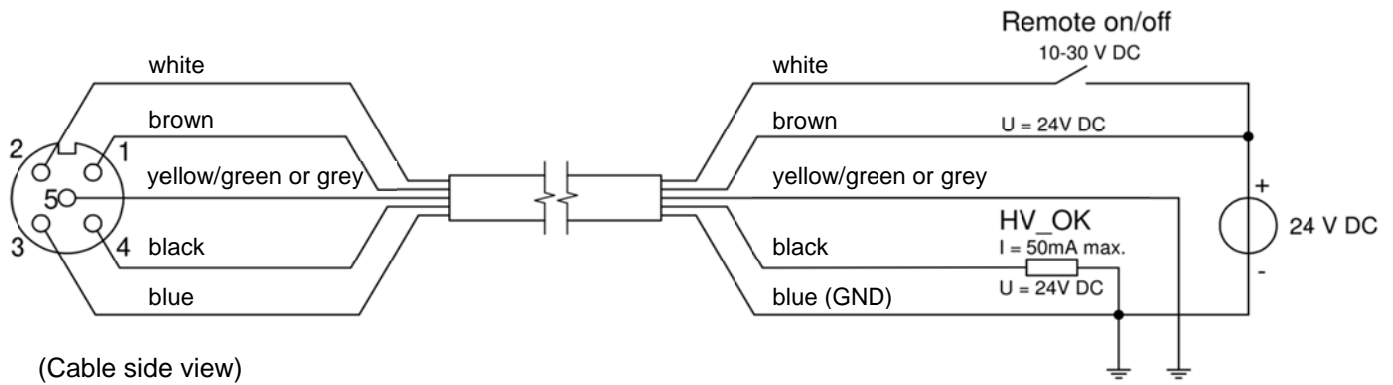

Figure 7: Wiring of the Performax IQ Easy and Performax IQ Easy Speed
- Connect the wiring as shown in figure 7.